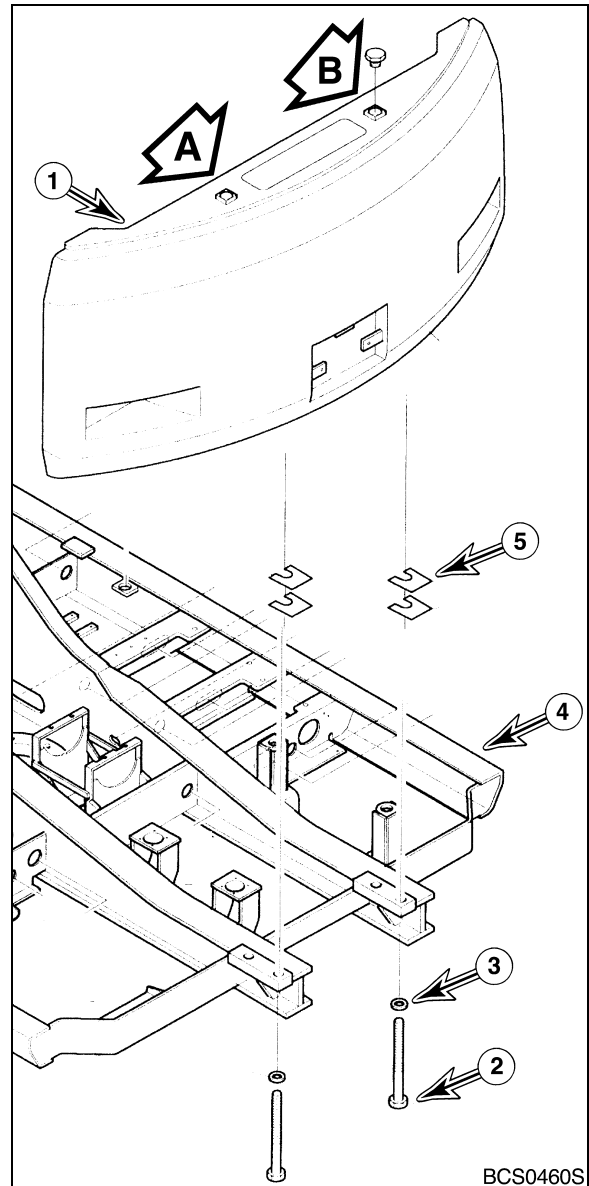

Figure 4
12. Remove two caps (A, B, Figure 4) from counter weight (1).
13. Install two lifting eyes in lifting holes (A, B, Figure 4).
14. Using a suitable lifting device capable of handling load partially support counterweight (1) before beginning to loosen four bolts (2). Stop lifting with assist crane as soon as lifting slings are taut.
15. Remove four bolts (2, Figure 4) and washers (3) from counterweight (1).
16. When bolts (2, Figure 4) and washers (3) have been removed, lift counterweight (1) a very short distance above support frame (4) and stop. Check slings and make sure counterweight is being supported evenly. Once checked, continue to remove counterweight.
17. Remove shims (5) from frame (4) if they exist.